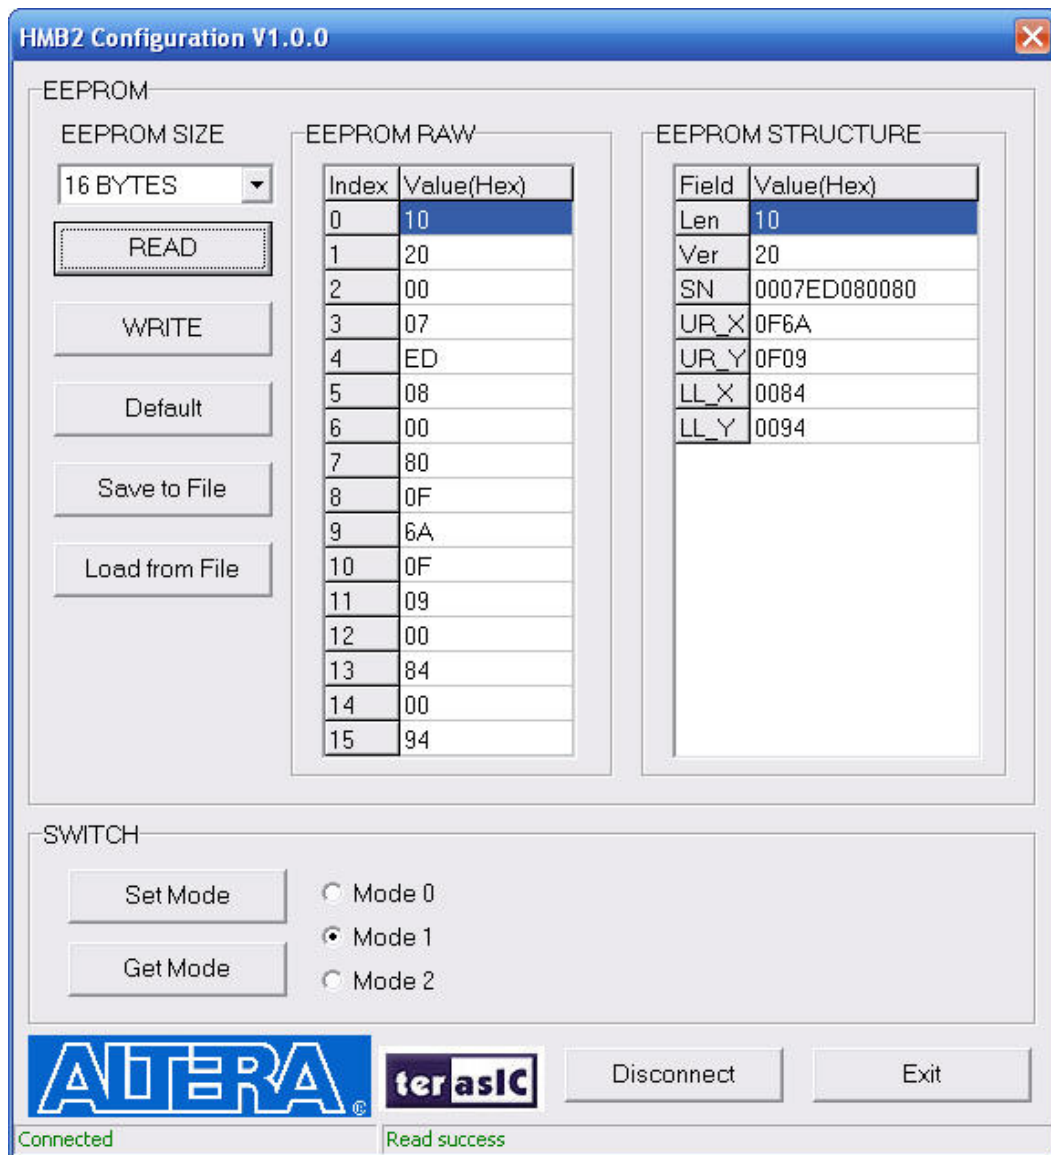

Figure A.1. EEPROM SWITCH Utility
2. The **EEPROM and Mode Switch Utility** is located in the directory “*Tool/HMB2_Configuration_Utility*” in the **MTDB System CD** which can be download from http://www.terasic.com/downloads/cd-rom/mtdb/MTDB_SYSTEM_CD_V2.0.zip. To execute the program, simply copy the whole folder to your host computer and launch the control panel by double clicking the “HMB2_CONFIG.exe”. Figure A.1 shows the switch tool as it is launched.